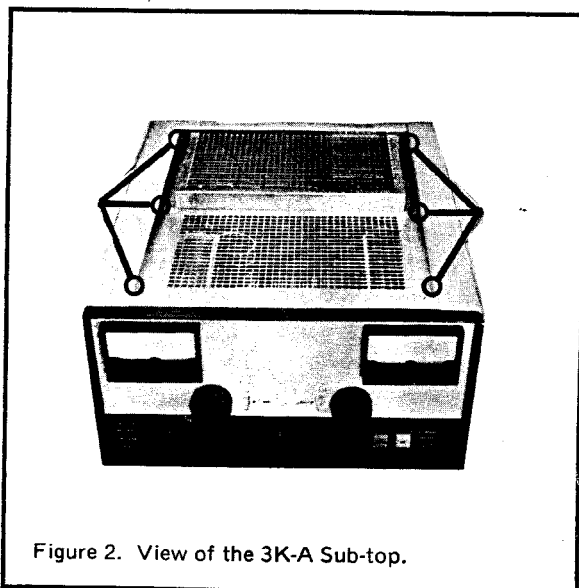

Figure 2. View of the 3K-A Sub-top.
- 3 Remove the perforated RF deck sub-top by unscrewing the 6 screws inside the amplifier, removing the 3 screws along the top of the RF deck's rear panel, and lifting the sub-top out of the amplifier (see Figures 2 and 3).